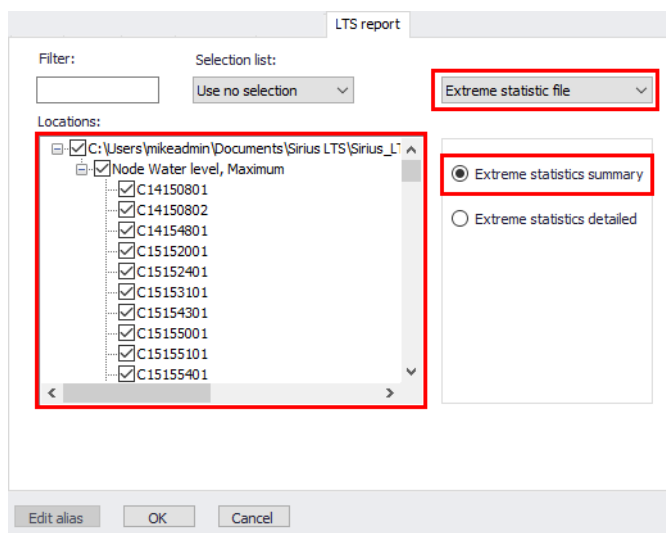

Figure 20.71 LTS extreme event statistics summary report configuration
- Choose to generate a report with the ‘Extreme statistics file’ from the dropdown menu on the upper right side of the page (Figure 20.71).
- Select the items and locations which shall be included in the report (Figure 20.71). Note that relevant items are offered on the Locations panel only if the appropriate LTS result file has been activated for the result document creation.